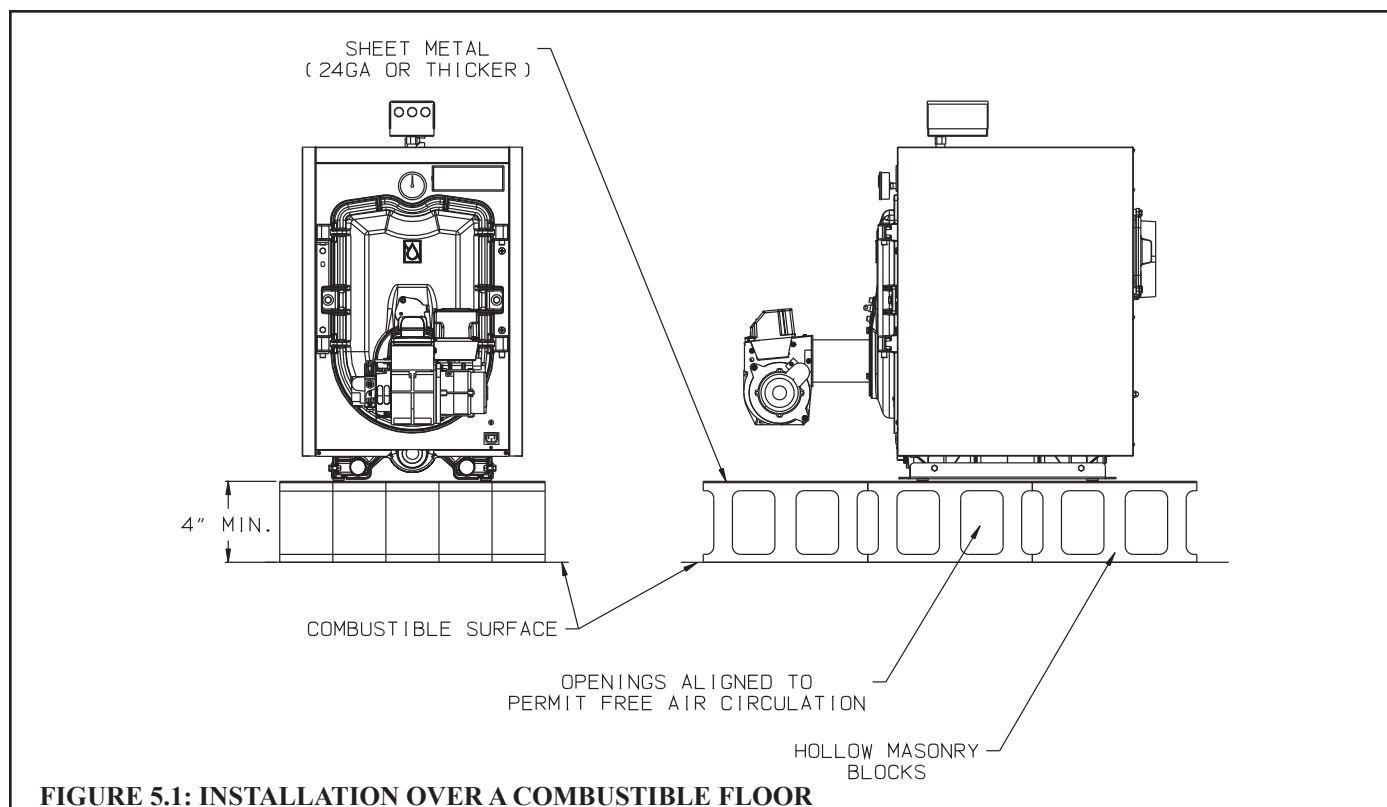

FIGURE 5.1: INSTALLATION OVER A COMBUSTIBLE FLOOR
- 1) Do not install this boiler directly on a combustible floor. Where it is desired to install an FWZ on a non-carpeted combustible floor, install the boiler on a base constructed as shown in Figure 5.1